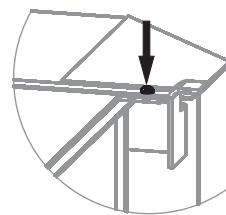

Figure 17. Drilling screws for dismantling of the tank
- Disconnect the tank by unscrewing 2 self-driving screws (Figure 17)